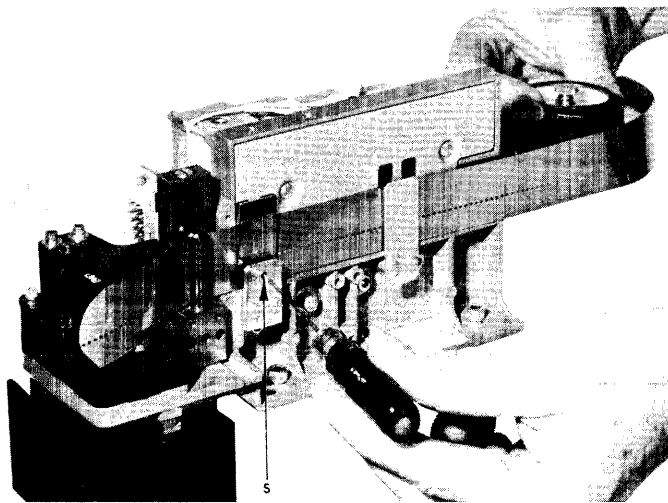

Figure 5-7. Adjustment of Edge Guide Assembly
- a. Place one layer of mylar tape between the edge guide assembly and the side plate. See Figure 5-7.
- c. If the conditions of step b are not present, adjust the set screw (S) until the required tension is present.